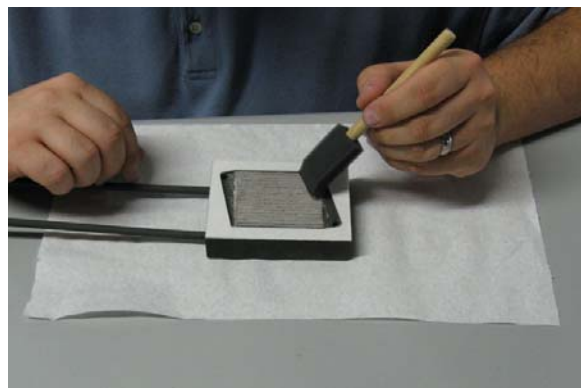

Figure 4
- o Use the ink sparingly to prevent clogging the gas flow channels(Figure 4)